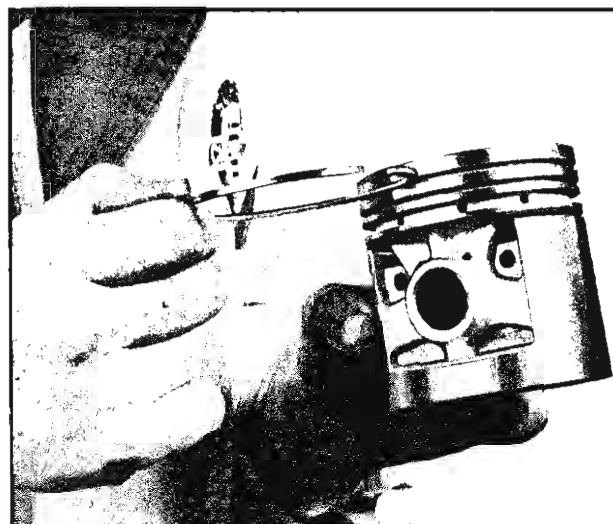

Fig. 36—Rolling Piston Ring in Ring Groove
8. Slip the outer surface of the ring into the piston ring groove and roll the ring entirely around the groove to make sure that the ring is free and does not bind in the groove at any point (fig. 36). If binding occurs, the cause should be determined and removed by carefully dressing with a fine cut file. However, if the binding is caused by a distorted ring, install a new ring.